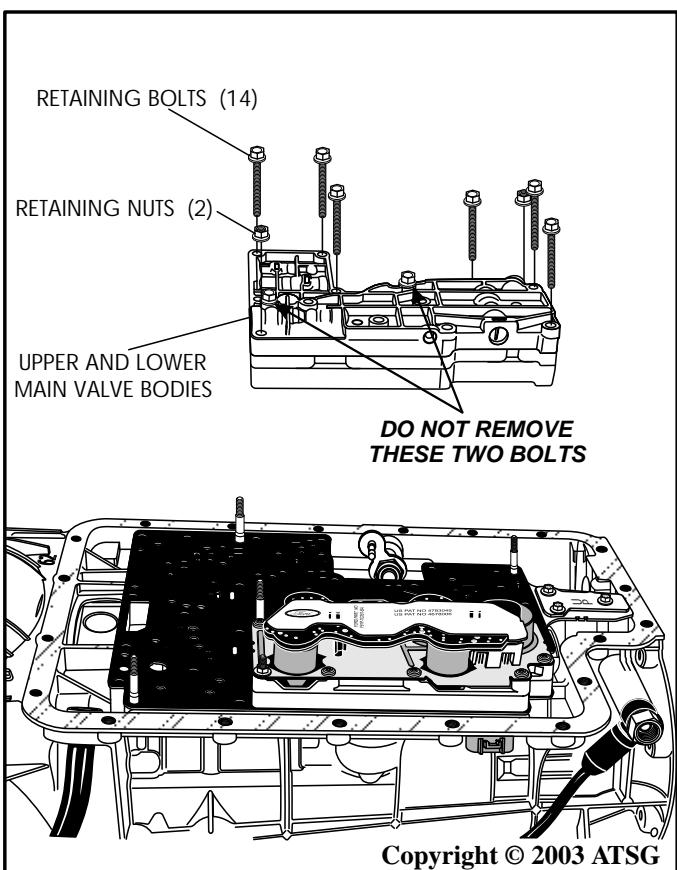

Figure 50
5. Remove two main valve body retaining nuts and the 14 bolts, as shown in Figure 50, and remove upper and lower valve bodies together as a package.
- Note:** *Do not remove the two bolts holding the upper and lower valve bodies together. Refer to Figure 50.*